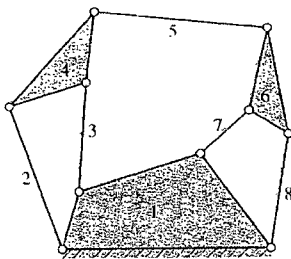

Fig 1
- iii. Find the mobility of each mechanism shown in the fig 1 and 2 (8 marks)